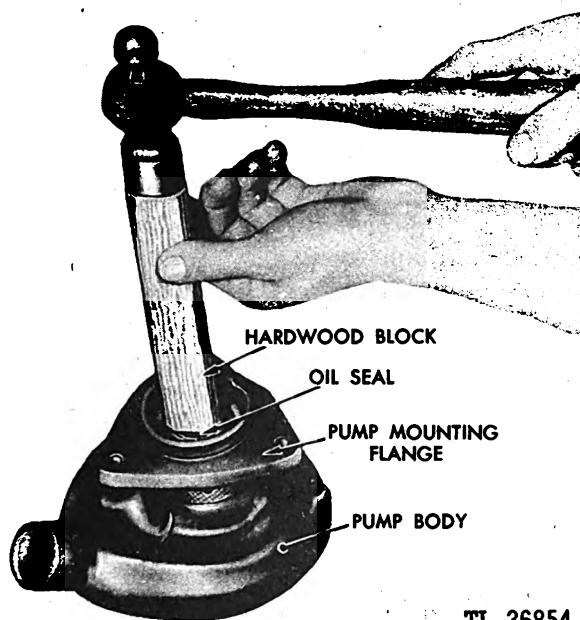

Fig. 202. Driving Out Oil Seal
(7) Unscrew the packing nut, remove the packing gland and pry out the old packing.
(8) Drive out the oil seal from the water pump body with a hard wooden block and hammer as shown in Figure 202.
(9) Do not remove the bearing from the spider unless the spider or bearing needs to be replaced, since the bearing will be of no further